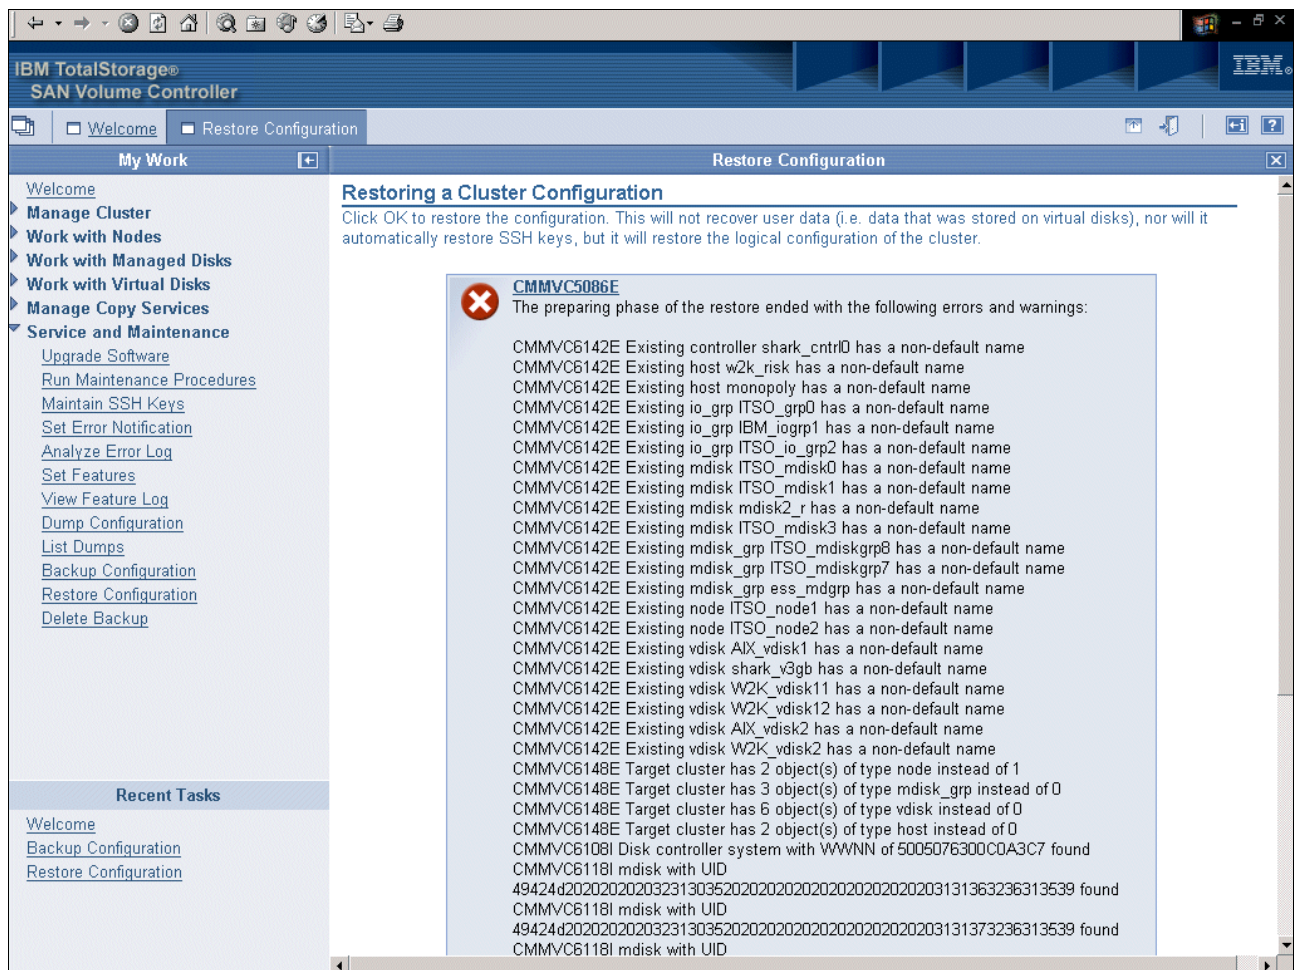

Figure 9-103 Restoring a configuration error messages
4. If you did not meet the prerequisites for a configuration restore, as explained earlier in this section, the Prepare phase fails. You receive CMMVCxxxxE error messages as shown in Figure 9-103. Correct the errors and try to restore the configuration again.